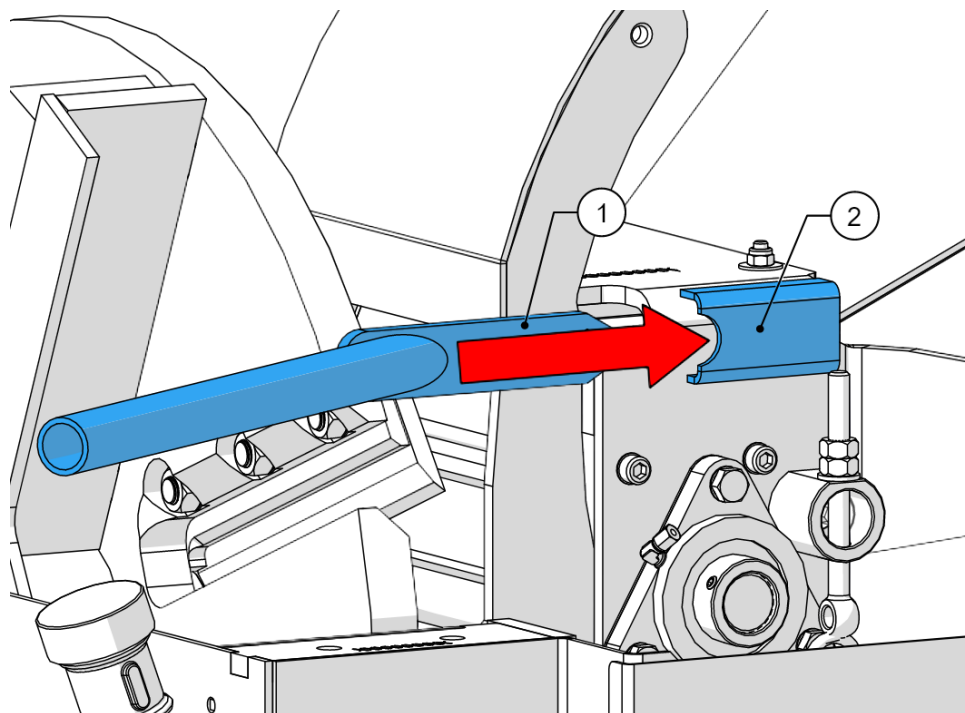

Figure 40 - Feed roller spring tension
11. Put the top feed roller lifting tool (1, Figure 40) into the slot (2, Figure 40).